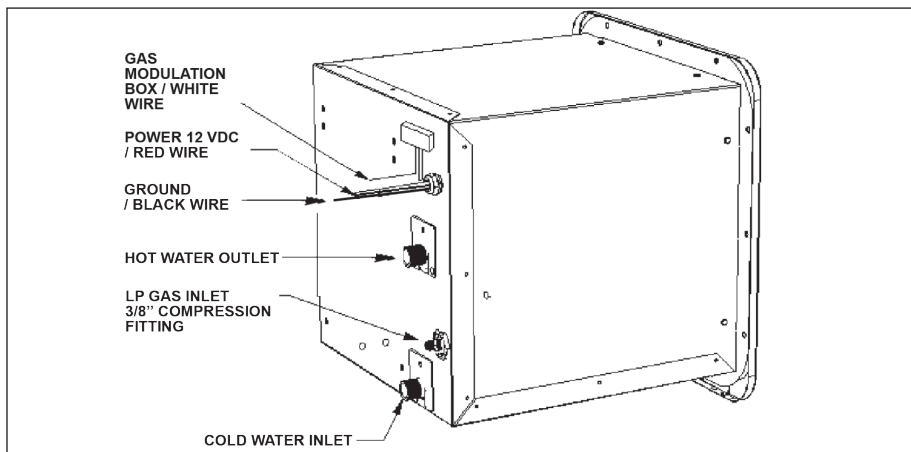

Figure 2
Partially insert the water heater into the opening and connect both Hot and Cold water lines to the appropriate ½”NPT fittings. Connections can be made using PEX swivel nut adaptors with NPS straight threads and a cone seal. The PEX swivel nuts require only hand tightening. (Figure 2, page 6).
Connect the gas to the 3/8” LP Gas compression fitting on the back of the Water Heater (Figure 2). **Use two wrenches to tighten the compression fitting to avoid damaging the unit.** Use additional caulking if needed to complete a permanent seal of the gas line with the housing.
- The length of the external wires, those wires extending beyond the strain relief from the rear of the housing (Figure 2), must **NOT** be shortened for any reason. Shortening these wires will prevent the removal of the Control Housing during servicing and/or testing.